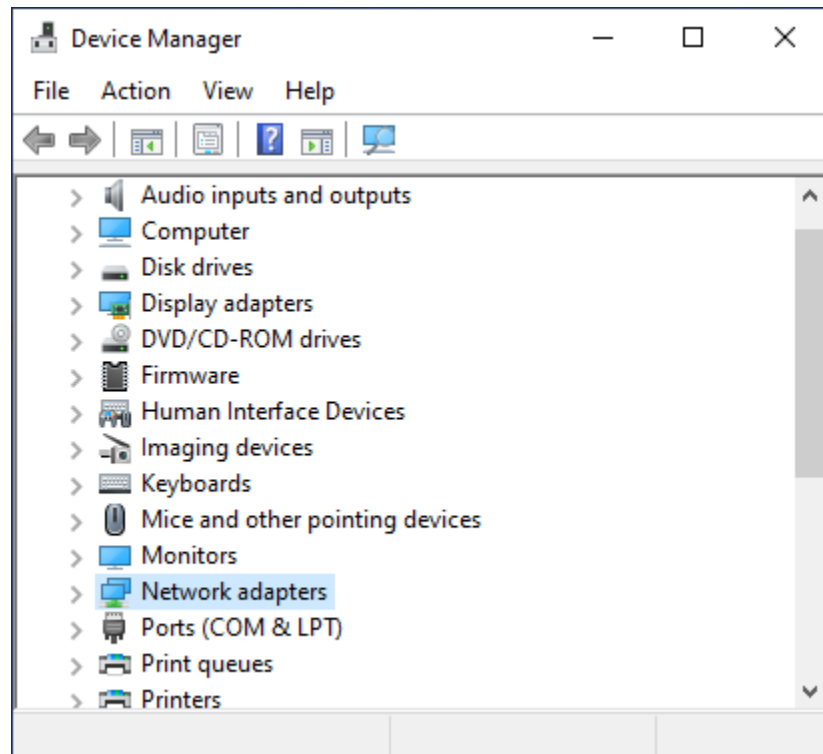

Figure 20. Device Manager Window
2. In the Device Manager window, click **Network Adapters**. Refer to Figure 20.